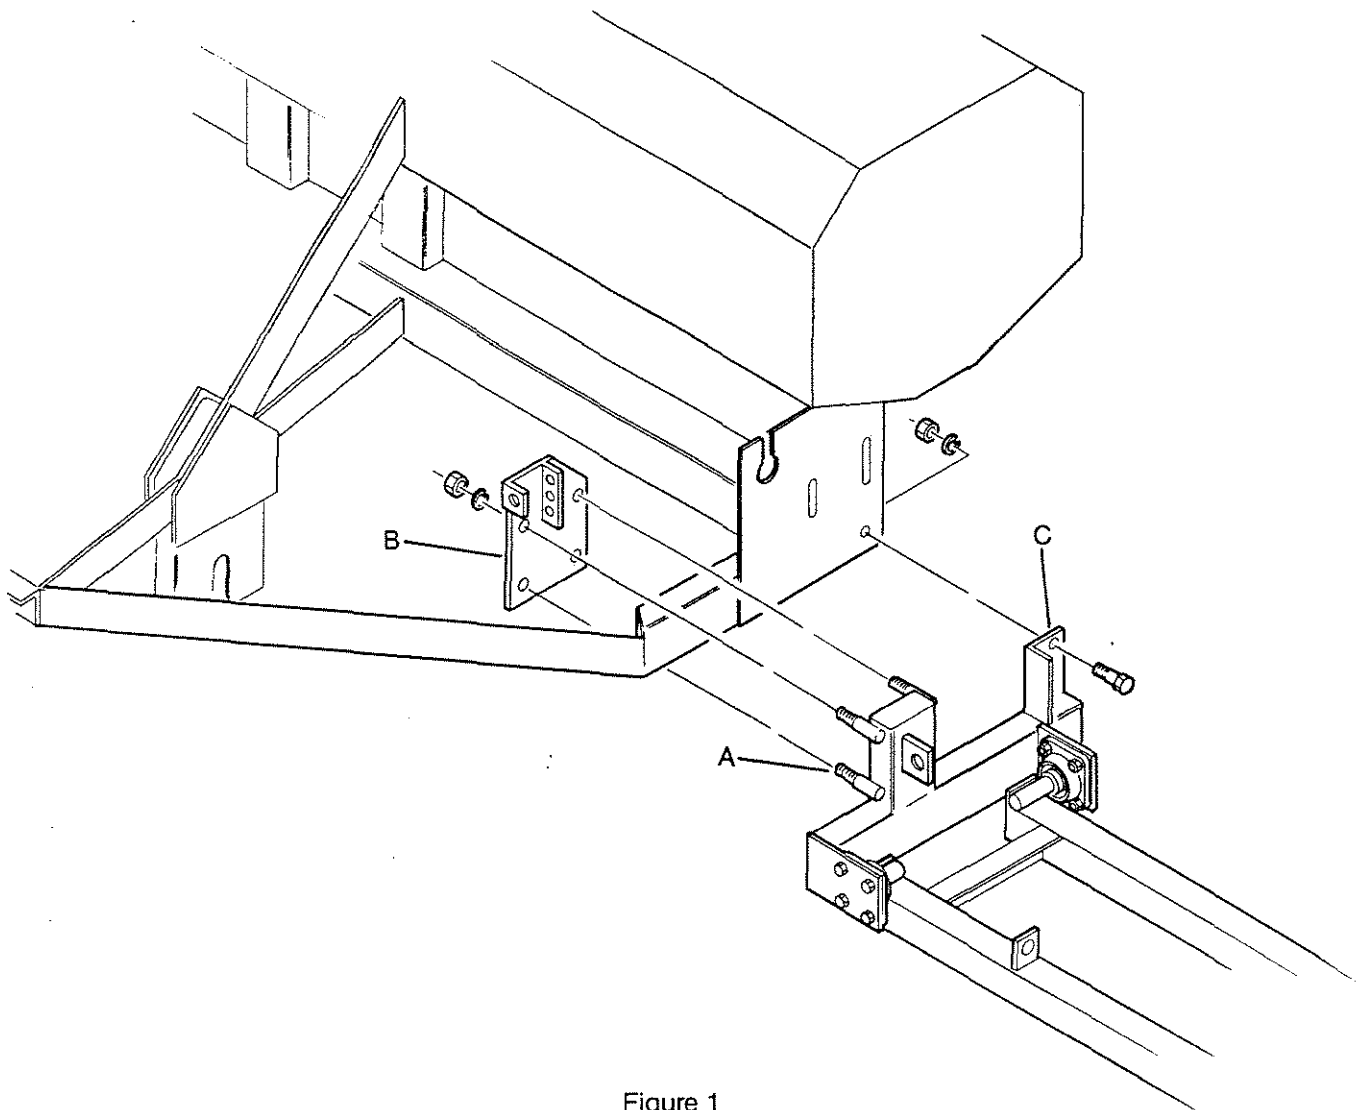

Figure 1
1. Support Marker horizontally at level of drill box. Attach Marker Main Mount (A) around horizontal 2" x 4" tube and slide into Mounting Plate (B). Hand tighten four $\frac{3}{4}$ " lockwashers and hex nuts (see fig.1).
2. Align hole in Main Mount Angle (C) to rear hole in box End Plate and attach with a $\frac{5}{8}$ " x $1\frac{1}{2}$ " long bolt, lock-washer and hex nut (fig. 1). Secure all hex nuts.